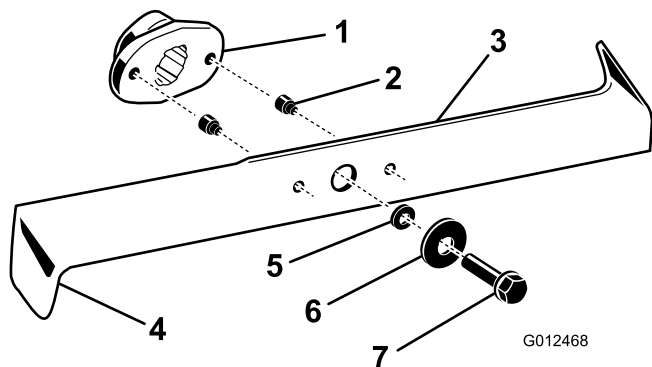

Figure 39
2. Inspect the cutting edges (Figure 39). If the edges are not sharp or have nicks, remove the blades and sharpen them; refer to Sharpening the Blades.
3. Inspect the blades, especially the bent edges (Figure 39). If you notice any wear or damage in this area, immediately install new blades.
4. If the shear pins are broken, replace them immediately (Figure 39).
3. Remove the bolts, washers, and blades (Figure 39). Wedge a block of wood between each blade and the mower to lock the blade when you are removing each bolt.
1. Install the blades, washers, and blade bolts (Figure 39).